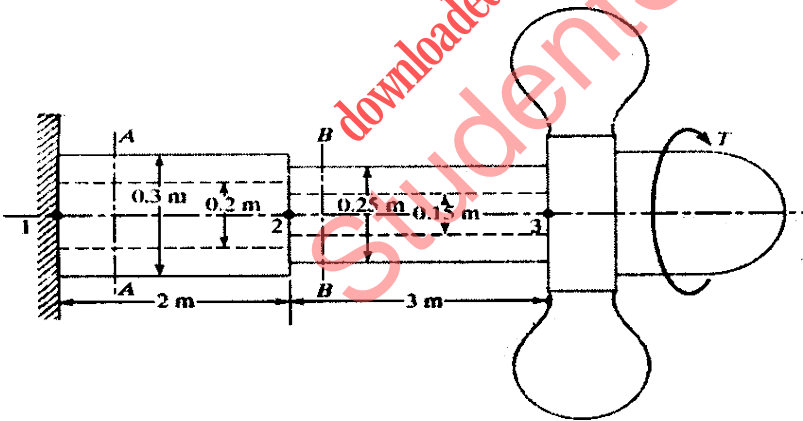

Figure 1.
1. (a) Determine the torsional spring constant of the steel propeller shaft shown in figure 1. 5